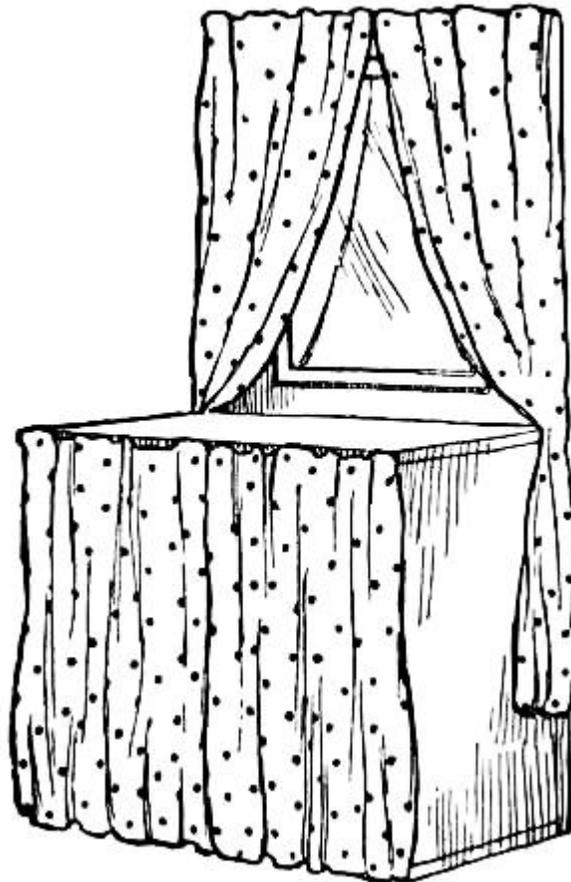
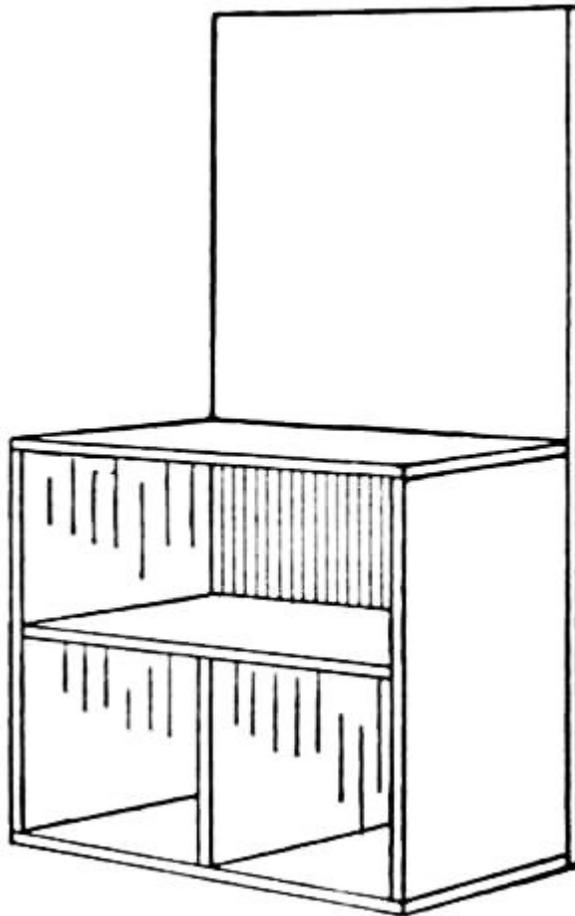

FIG. 142.—Dresser completed.
FIG. 143.—A Doll's Dresser.
**The Dresser** shown in Fig. 142 is made out of a box the same size as the larger one used for the folding-bed. Saw the sides of the box in half, crosswise, and remove the upper half and the end-piece. Then nail the end across the tops of the remaining halves of the sides. When this has been done, divide up the lower portion of the box into compartments as shown in the drawing (Fig. 143). This should have a small drapery hung over it. The upper portion of the dresser should have a mirror attached to it, and some lace draped over the top and sides will add greatly to its appearance.